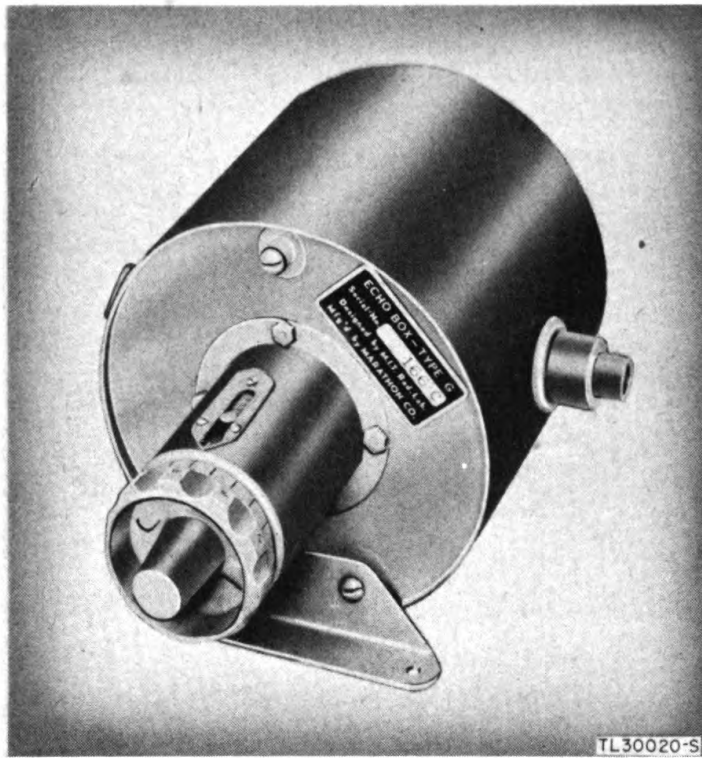

Figure 2. Echo Box TS-207/UP.
4. ECHO BOX TS-207/UP (fig. 2).